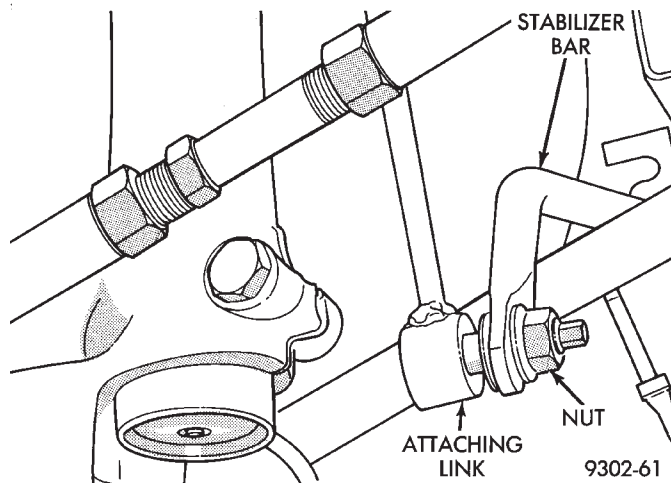

Fig. 20 Stabilizer Bar Attaching Link
(5) Remove fuel tank. Refer to Group 14 Fuel, in this service manual for the required fuel tank removal procedure.
(6) Remove the stabilizer bar attaching link nut at the stabilizer bar (Fig. 20).
(7) Remove stabilizer bar and isolator bushings as an assembly from the vehicle.
(2) Install the stabilizer bar attaching link on the stabilizer bar. Install the attaching link to stabilizer bar attaching nut (Fig. 20). Tighten the stabilizer bar attaching link to stabilizer bar nut to a torque of 95 N·m (70 ft. lbs.).
(3) Install fuel tank back in vehicle. Refer to Group 14 Fuel, in this service manual for the required fuel tank installation procedure.